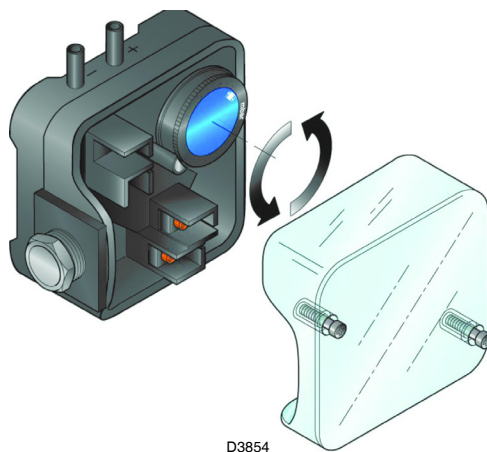

Fig. 30
- Adjust the air pressure switch (Fig. 30) to the start of the scale.
Adjust the air pressure switch (Fig. 30) after having performed all other burner adjustments with the air pressure switch set to the min. of the scale.